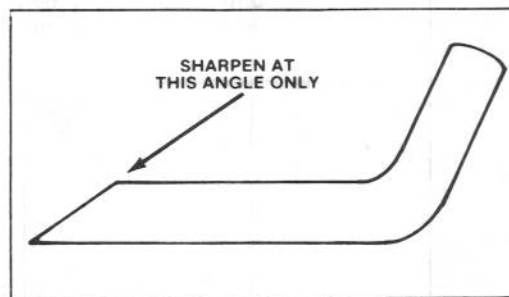

Figure 19
6. **SHARPENING BLADE** — Using a file, sharpen top side of blade and maintain original cutting angle (Fig. 19). The blade will remain balanced if same amount of material is removed from both cutting edges.